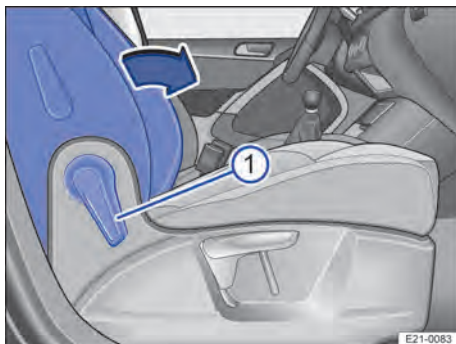

Fig. 62 Front passenger seat: folding the backrest forwards.
5. Pull the lever → Fig. 62 ① forwards to unlock the front passenger seat backrest.
6. Fold the front passenger seat backrest forwards in the direction of the arrow → Fig. 62 until it is horizontal.